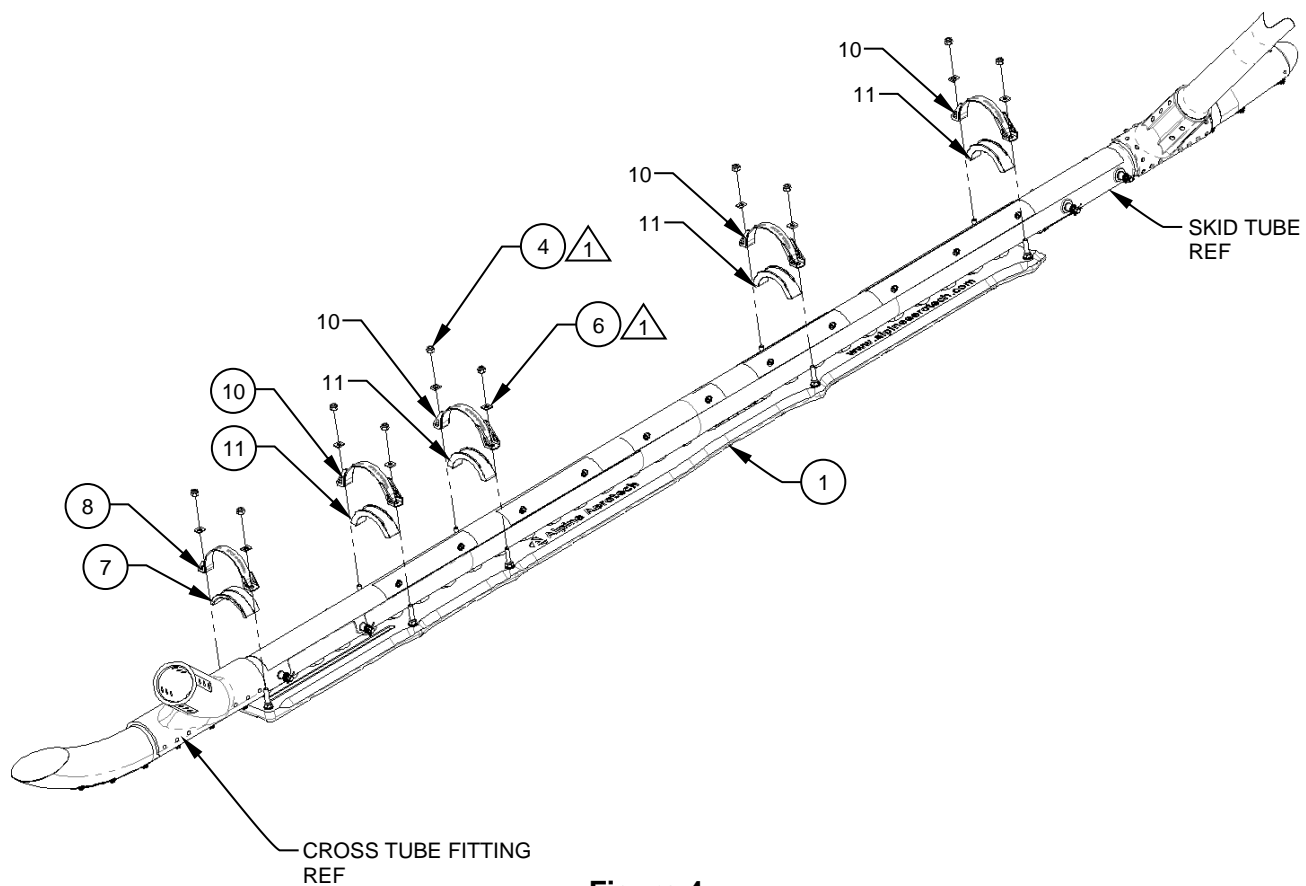

Figure 4
1. Raise the aircraft so the Traction Paw, Detail (Item 1) can be slid under the skid tube. Reference Figure 4.
3. Install the supplied Washer (Item 6) and Nut (Item 4) on each bolt. Reference Figures 4 & 5.